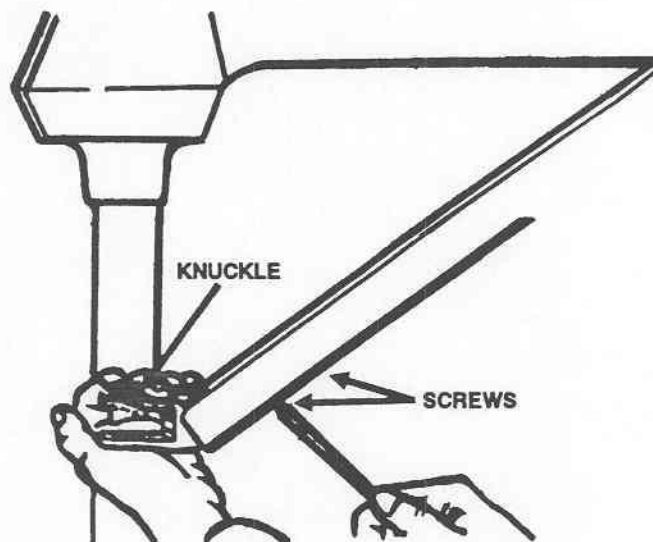
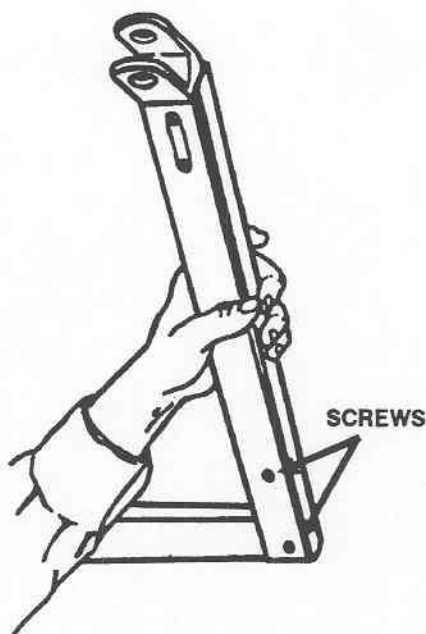

Figure 3-20. Arm cover reassembly (front).
Figure 3-21. Arm cover reassembly (rear).
(1) Replace the arm cover knuckle and steel pin. Press the arm down while lifting up on the knuckle to install the two front screws (fig 3-20) and hold the arm up to install the two rear screws (fig 3-21).